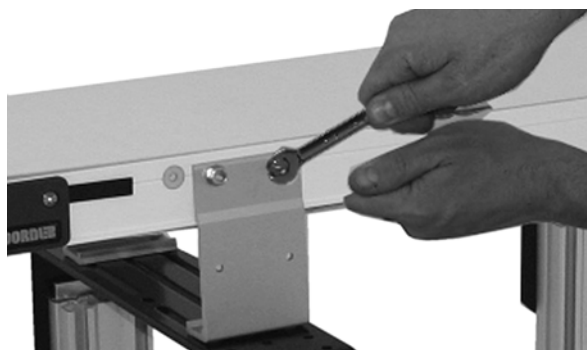

Figure 18
3. Hand tighten the screws to secure (**Figure 18**). Recommended torque is 150 in.lbs (17 Nm).